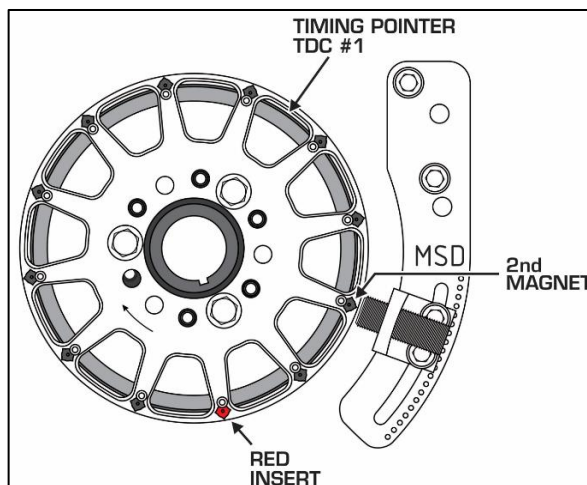

Figure 4: (Example) Aligning 2nd tooth, Driver Side Mounting
4. Rotate the crank wheel until the 2nd-tooth (Magnet, black insert) after the red insert lines up with the approximate centerline of the sensor. **Figure 4 and 5** show two examples. The wheel was designed such that the bolt-holes on the wheel should line up to those of the balancer under these conditions. This should provide an ignition reference angle of 60° BTDC #1, assuming TDC was properly identified.